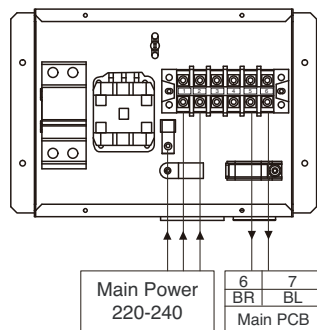

Fig. 2
Step 2. Connect the water tank kit to the main power like the below figure 2.
Step 3. Connect the water tank kit to the Main PCB assembly(Heater) like the below figure 2.